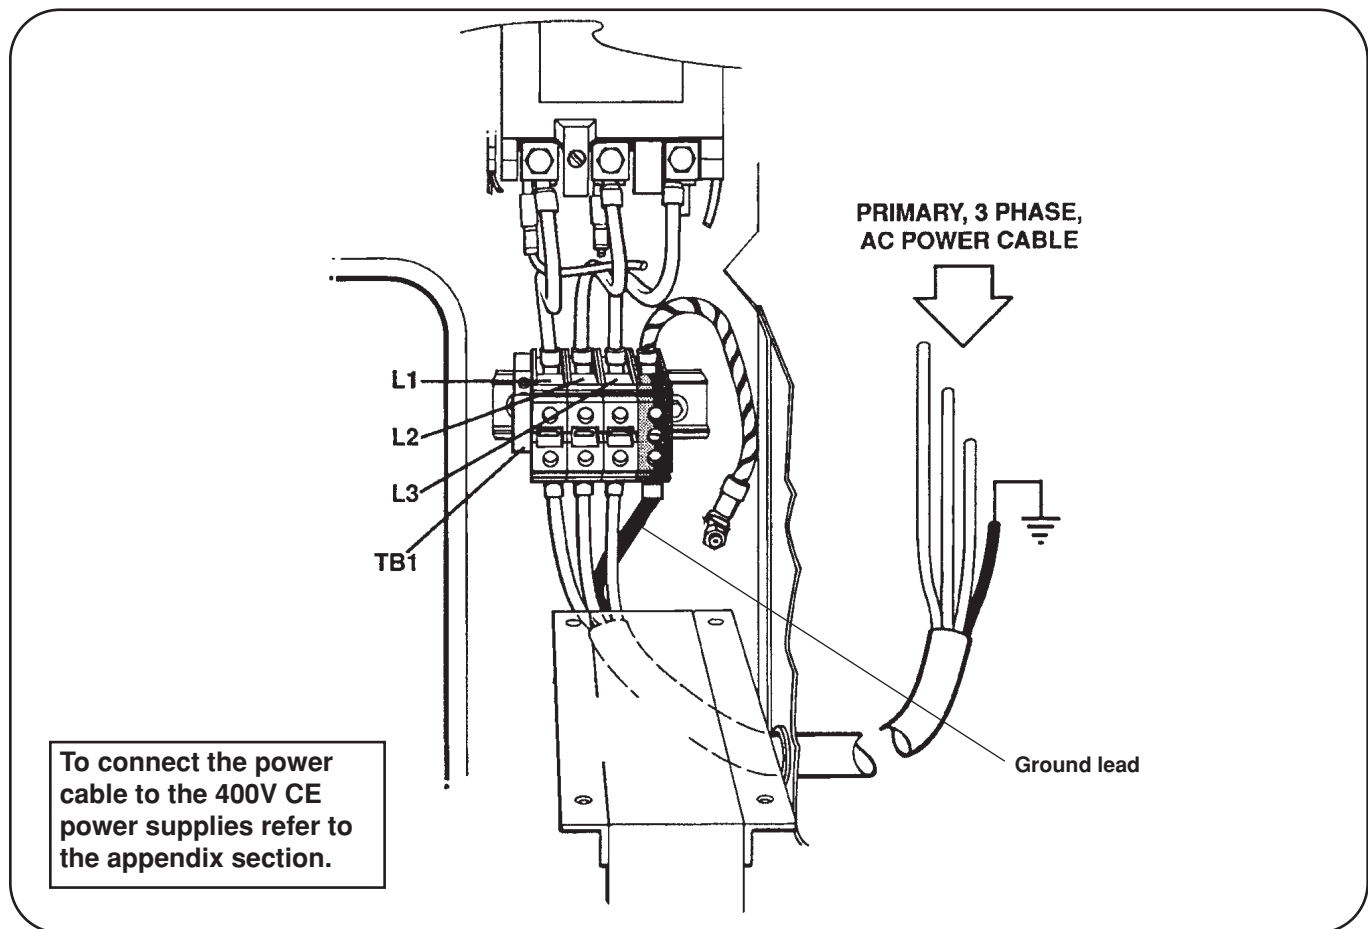

Figure 3-1 Power Cable Connections
2. Connect the power leads to the **L1**, **L2**, and **L3** terminals of **TB1**. See Fig. 3-1.